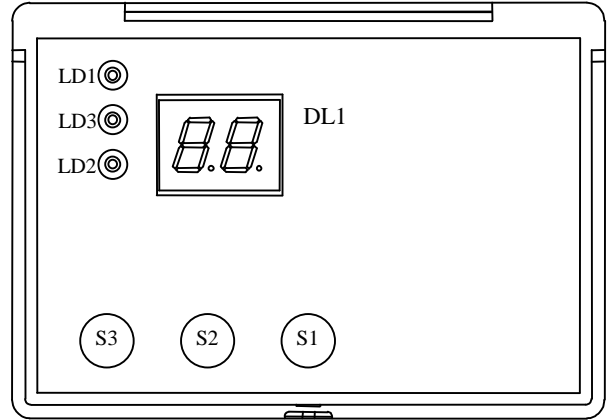

figure 1
- **User side:** (figure 1)
- Commands (figure 1) :
- Visualizations (figure 1):